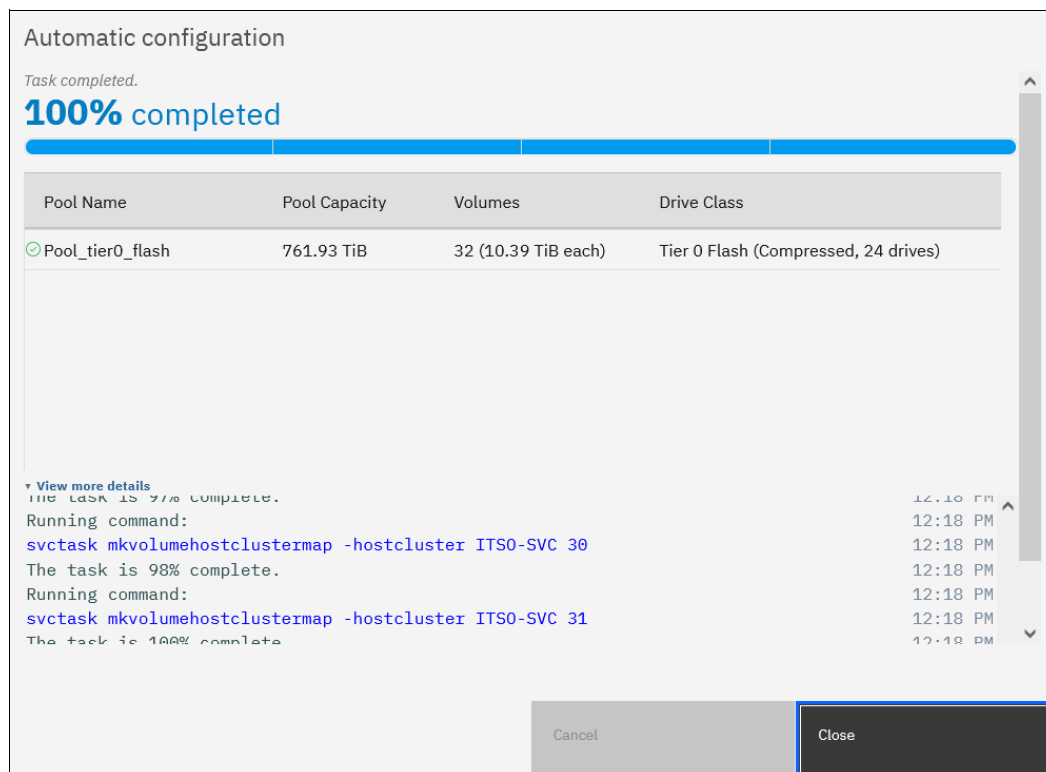
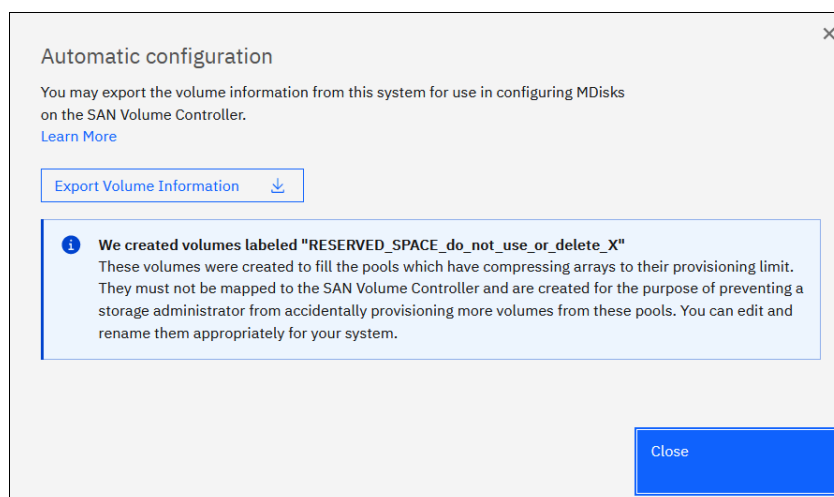

Figure 3-57 Automatic configuration executing commands
Figure 3-58 Automatic configuration complete
- When the Automatic Configuration for Virtualization wizard completes, you see the window that is shown in Figure 3-58. After clicking **Close**, you can proceed to the IBM SAN Volume Controller GUI and configure a new provisioned storage as shown in Figure 3-57.